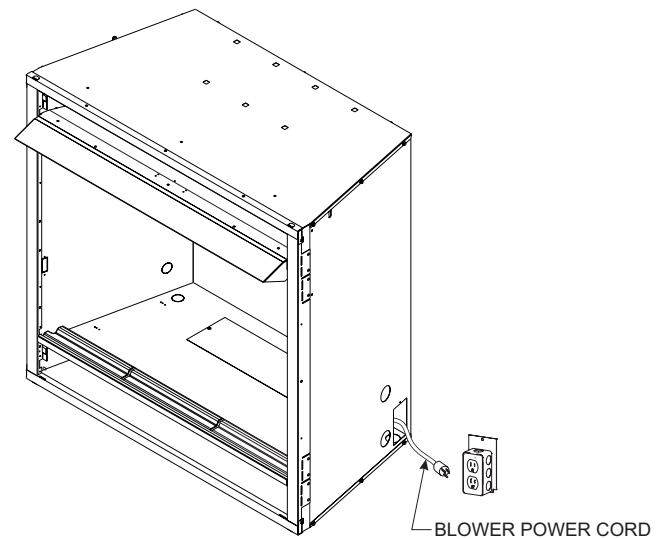

Figure 25
10. To complete the installation, plug the power cord into the junction box receptacle at the right rear corner of the firebox outer wrap. **See Figure 25.**